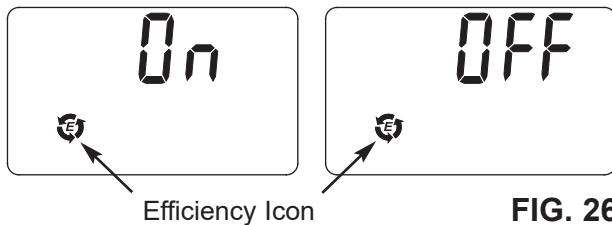

FIG. 26
1. Press and hold the PROGRAM button until the screen in Figure 25 is displayed. Once in this display, press the PROGRAM button once and one of the two displays in Figure 26 is shown.